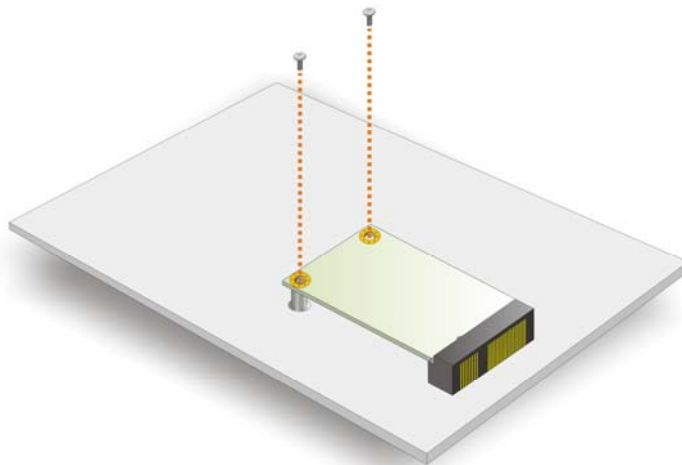

Figure 4-11: Secure the mSATA Card
**Step 4:** **Secure the mSATA card.** Secure the mSATA card with the retention screws previously removed (**Figure 4-11**).